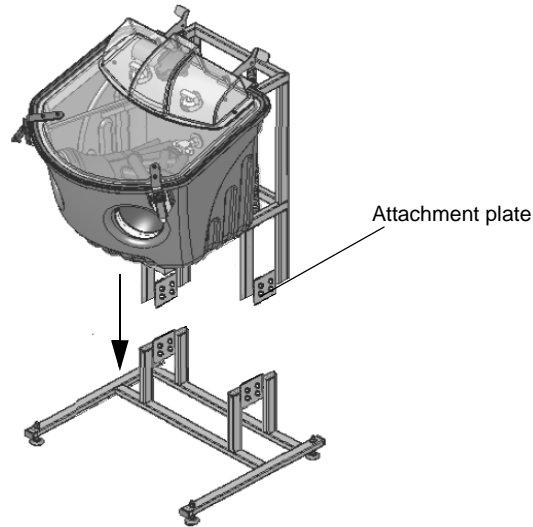

Figure 4-2: Assembling the stand for tables
- Eight (8) M8 Allen screws with nuts (supplied)
2. Place the WaterJet cabinet on the base (see figure 4-2).